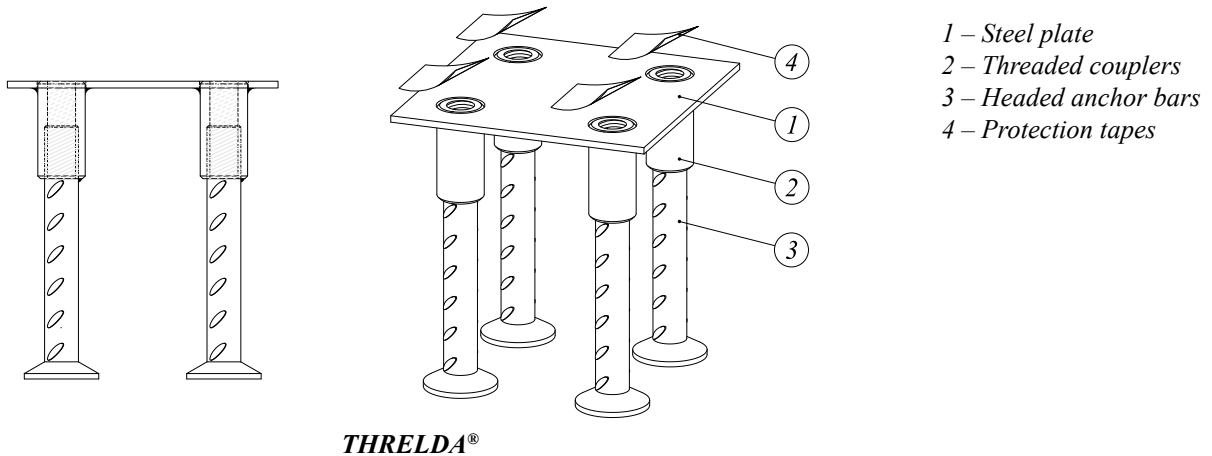

Figure 2. THRELDA® Anchor Plates.
THRELDA® Anchor Plates (see Figure 2) are constructional elements that are embedded in concrete to enable create bolted structural joints between concrete and steel structures from one side. The loads from steel structure are transferred into the base concrete structure by headed anchors. The steel plate (1) (without load bearing function) secures correct position of threaded couplers (2) with headed anchor bars (3). To prevent damage of the thread, each threaded coupler has thread protection tapes (4). Couplers with headed anchors are welded at the steel plate. This assembly is delivered on site as one item. (See Figure 2).